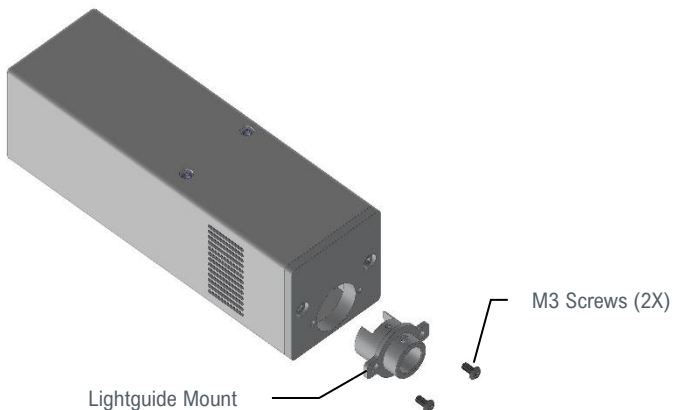

Figure 2
3. Using a 2-mm Allen Wrench, remove the two M3 Screws and the Lightguide Adapter from the Emitter (Figure 2).